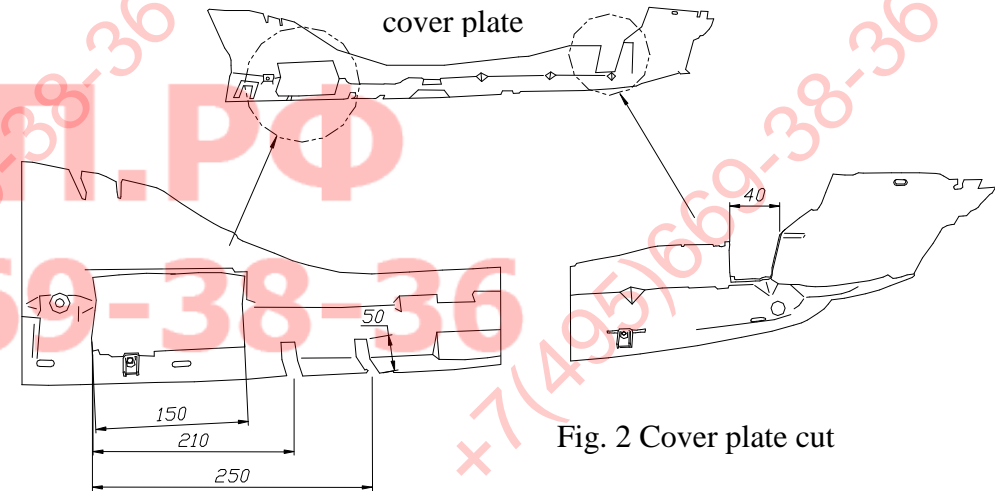

Fig. 2 Cover plate cut
- Assemble cover plate, before install cut out his fragments according to figure 2.
- Put main bar of the towbar pos. 1 between fixed side brackets and twist on bolts M12x35mm (pos. 6).